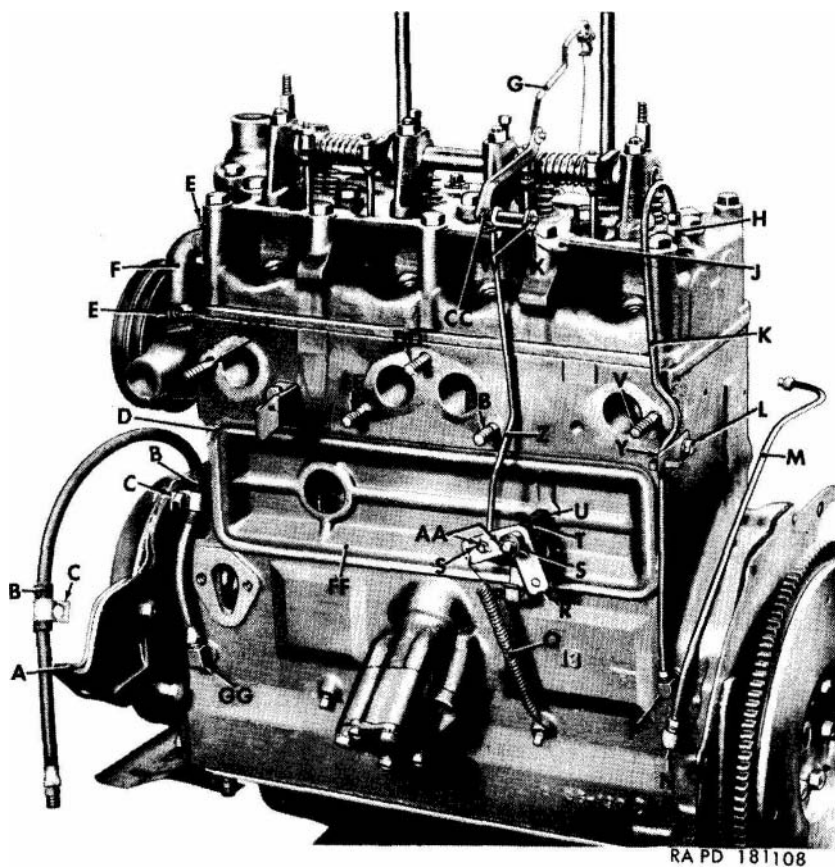

Figure 97. Left side view of engine partially assembled.
(*fig. 97*)
c. Install the 90° elbow (N) in the cylinder block and connect the sending unit oil line (M) to the elbow.
d. Install the 90° elbow (GG) in the cylinder block and connect the non-swiveled end of the oil filter inlet flexible line (A) to the elbow. Install one of the $\frac{3}{16}$ -inch clips (C) on the flexible line and under the head of the timing gear cover bolt as shown in figure 97 and the second clip (C) under the head of the water pump upper attaching cap screw.
e. Install the water pump bypass tube (F) on the nipples installed in the cylinder head and the water pump, and secure in place with $\frac{15}{16}$ -inch hose clamps (E).
(fig. 97)